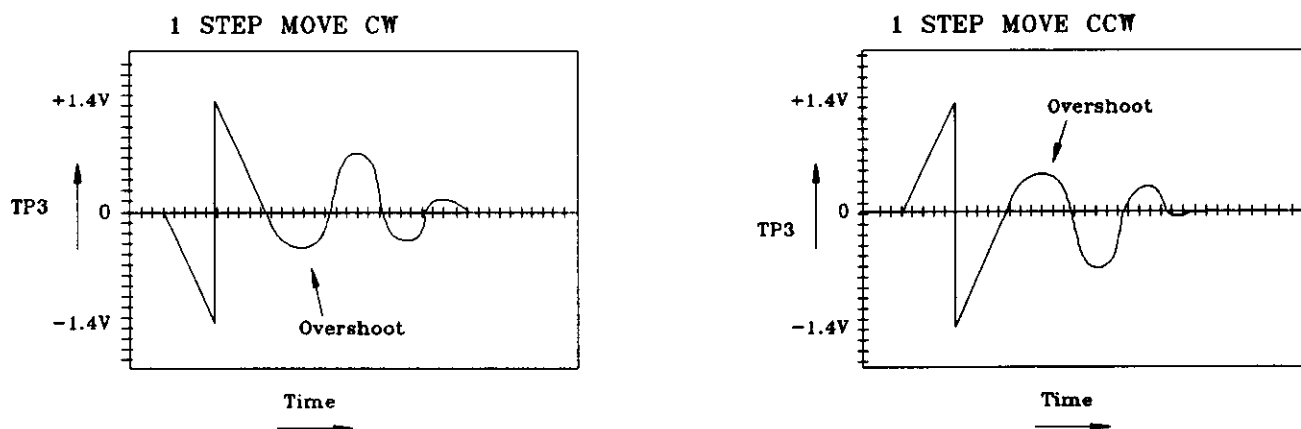

Figure 6-13: Analog Lock Signal at TP3
This pot adjusts analog offsets inherent in the pre-amplifier circuit (see Figure 6-13) which can cause position error. This pot is adjusted when the motor is at rest. Set the pot to a position such that the "zero" LED remains lit. Test the setting by making a move and confirming that the "zero" LED lights when the motor comes to a stop.
9. To adjust the Balance it is necessary to adjust the P1 (ANALOG LOCK GAIN) and P5 (BALANCE ADJUSTMENT). With the system at rest, adjust P5 until the "Zero" indicator LED is lit on the front of the Unidex 14. Connect the probe of the oscilloscope to testpoint TP3 (LOCK SIGNAL) and the common of the oscilloscope to testpoint TP4 (SIGNAL COMMON). Turn P1 (ANALOG LOCK GAIN) mid-range and adjust P5 (BALANCE) for zero volts ($\pm 0.5V$) at testpoint TP3. Execute a one step move and adjust P1 for approximately 25% overshoot at testpoint TP3 upon completion of the move with little or no ringing (as shown in Figure 6-13). After adjusting P1 it may also be necessary to readjust P5.